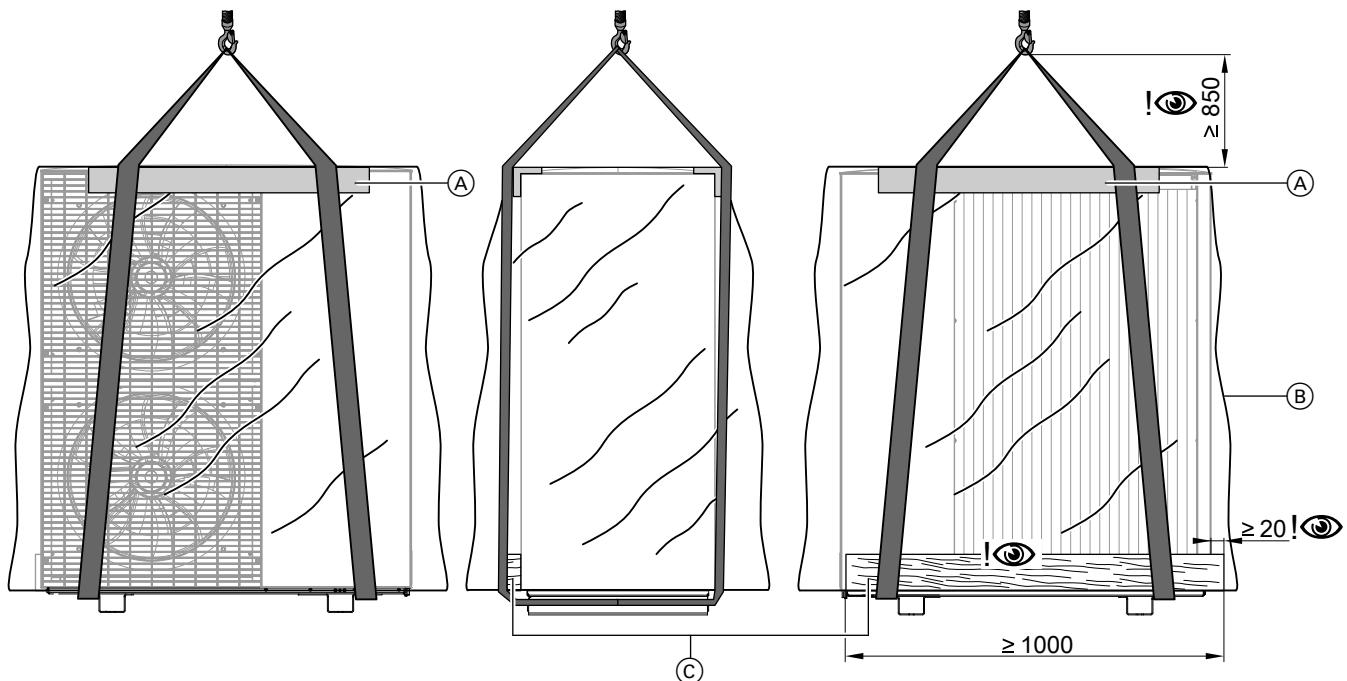

Fig. 7 Transport by crane using the example of the outdoor unit with 2 fans
3. Position the edge protection profiles on site at the front and rear upper edges of the outdoor unit. Place slings properly around the outdoor unit: See Fig. 7.